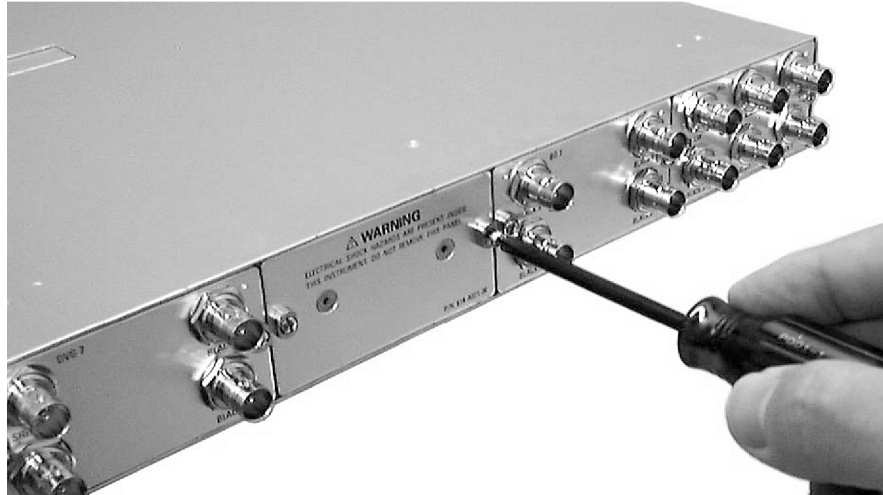

Figure 6: Removing the blank panel
3. Use a screwdriver with a #1 Phillips tip to loosen the two screws of the blank panel attached to the slot you want to use, and then pull it away from the instrument. Save the blank panel for future use. (See Figure 6.)